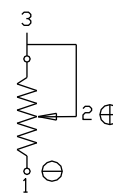

Figure 3C
5.4 When the potentiometer is used as current regulator in DC circuit, DC current will pass the sliding arm thus resistance value will rise abnormally because of anodic oxidation. In this case, In this case, it is recommended to connect the leading-out terminal of the resistor to the cathode and that of the sliding arm to anode.(See figure3C)